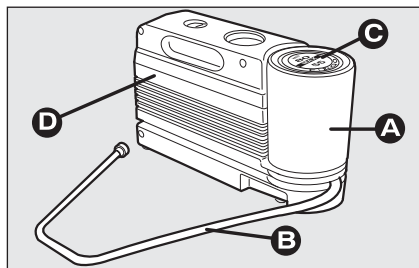

fig. 10
- ☐ compressor **D-fig. 10** including gauge and connections;